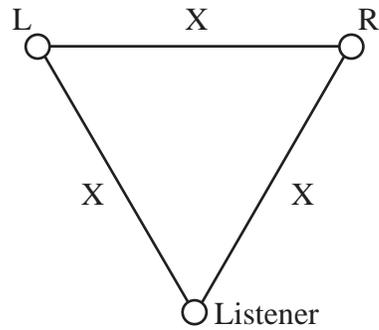

Figure 9.28: 5-channel setup: Step 1. Measure an equilateral triangle with your L and R loudspeakers and the listening position as the three corners.
Step 2. Make an equilateral triangle marking the listener's location, the Left and the Right loudspeakers as shown in the figure on the right. See Figure 9.28.